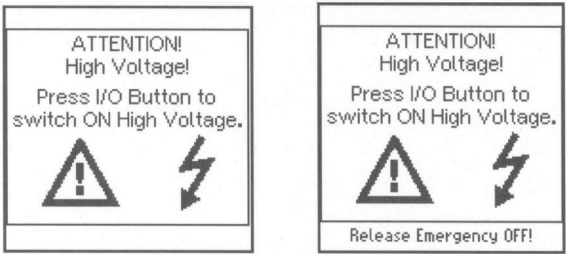

Figure 6
- (b) IF message appears, THEN **CHECK** "Emergency Off" button and "Side Emergency Off" Interlock" plug (see Figure 6).